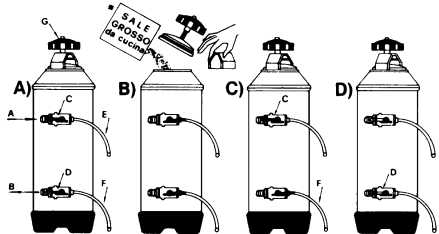

Figure 12
- switch off the machine and place a container with a capacity of at least 5 litres underneath the tube E (Fig. 12-A). Turn the levers C and D from left to right (Fig. 12-B), remove the plug by unscrewing the knob G and pour in a kilo of cooking salt.
- Replace the plug and turn the lever C back to the left (Fig. 12-C), leaving the salt water to run out of the tube F until it returns fresh (approx. 1/2 hour).
- Then turn the lever D back to the left (Fig. 12-D).